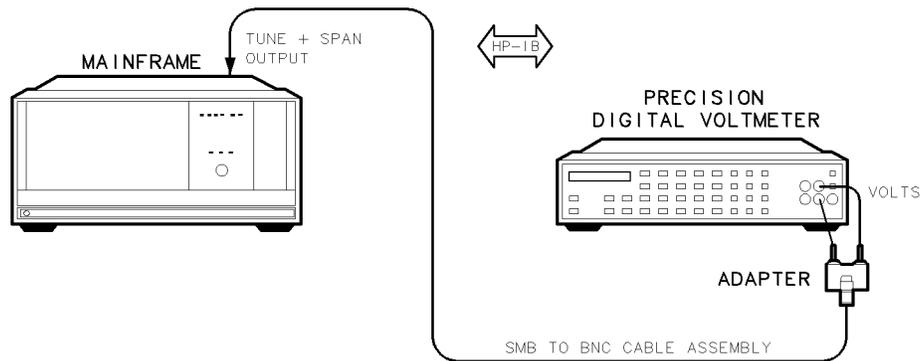

Figure 7-18. Tune + Span Output Accuracy Test Setup
1. Connect the HP 3456A digital multimeter to the DUT's TUNE + SPAN OUTPUT using the adapter and SMB-to-BNC cable assembly, as shown in Figure 7-18.